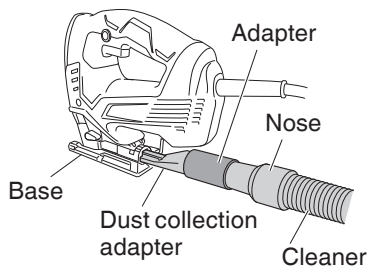

Fig. 19
- (3) Connect the dust collection adapter with adapter. (Fig. 19)
- (4) Connect the adapter with the nose of cleaner. (Fig. 19)